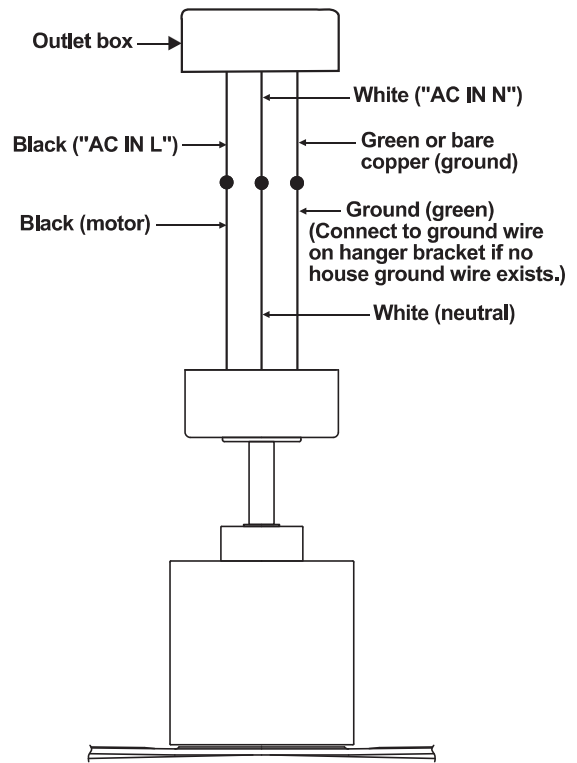

Figure 13
1. Connect the fan supply (black) wire to the black household supply wire as shown in Figure 13.
2. Connect the neutral fan (white) wire to the white neutral household wire. (Fig. 13)